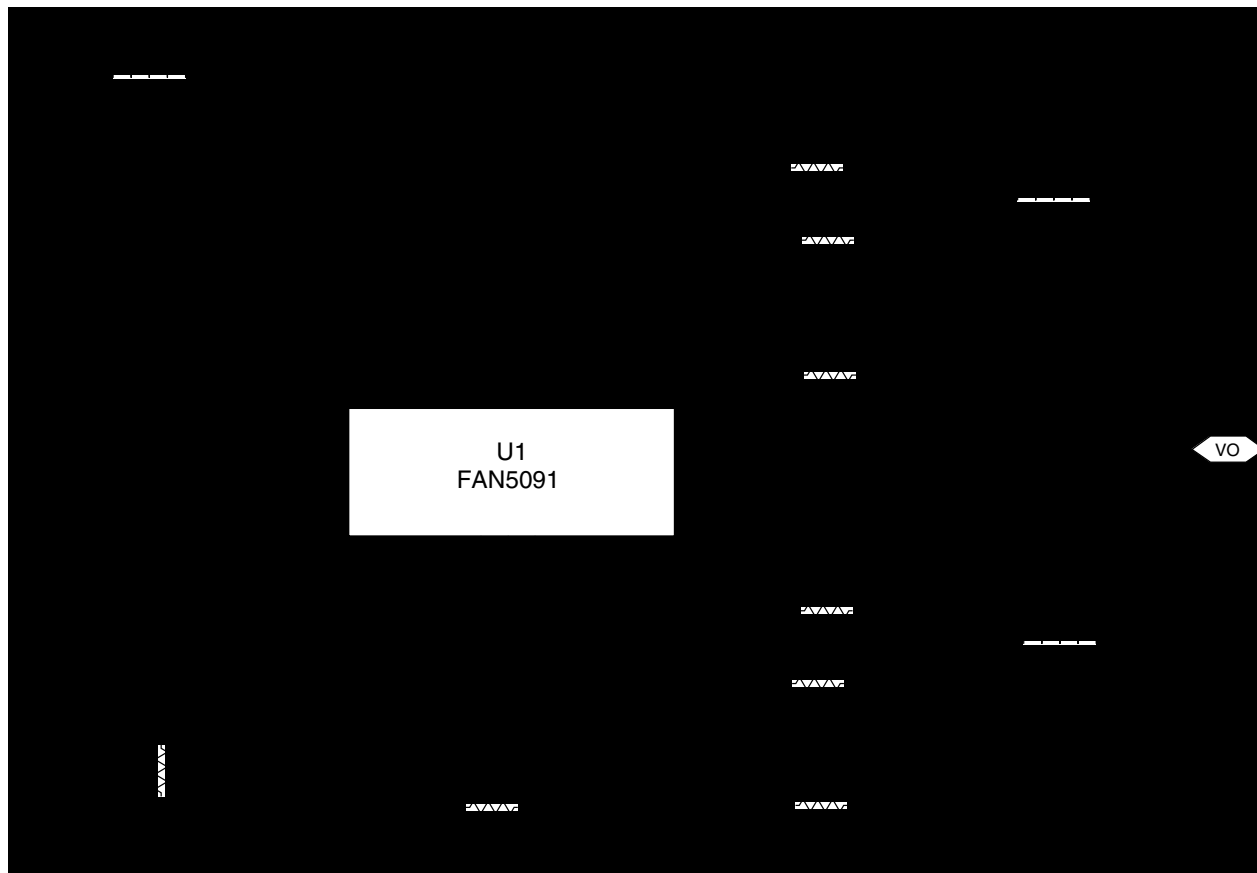

Figure 2. Application Circuit for 69A Willamette Low-Frequency Application (200KHz each slice)
( $V_{CC} = 12V$ , and  $T_A = +25^{\circ}C$  using circuit in Figure 2, unless otherwise noted.)
**Table 3. FAN5091 Application Bill of Materials for Figure 2**